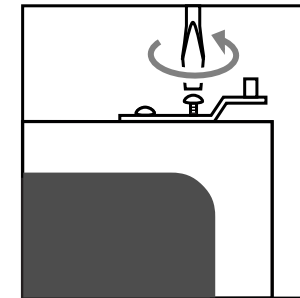

Fig. 8b
- Remove the hinge that is now at the top (see Figure 8b). Attention: the ring belongs in the lower hinge.